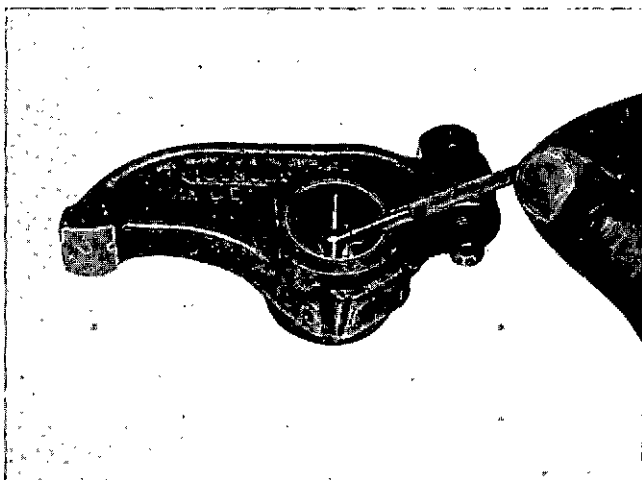

Fig. 3-1-4, V40306. Check rocker lever bushing for wear
6. Check rocker lever bushings for scratches, pitting or scoring. Check rocker lever bushing inside diameter with inside micrometers. Fig. 3-1-4. See Table 3-1-1 for bushing dimensions.